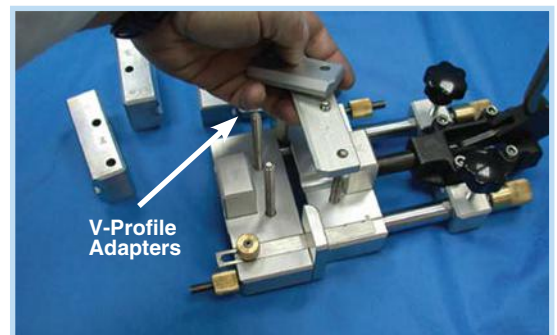

Fig. 4
2. Remove the V-Belt Adapters from the Moveable Base (Fig. 4).